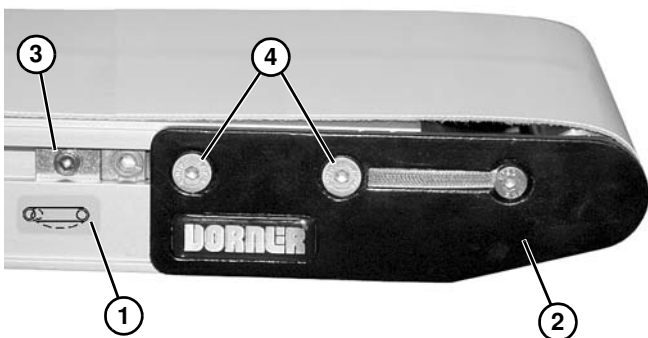

Figure 32
5. On tension end of the conveyor, identified with  a label (**Figure 32, item 1**), push in headplate assembly (**Figure 32, item 2**):
- a. On both sides of conveyor, loosen and move cam tracking assemblies (**Figure 32, item 3**) (if equipped) away from headplates.
- b. Loosen fastening screws (**Figure 32, item 4**) and push headplate assembly inward.